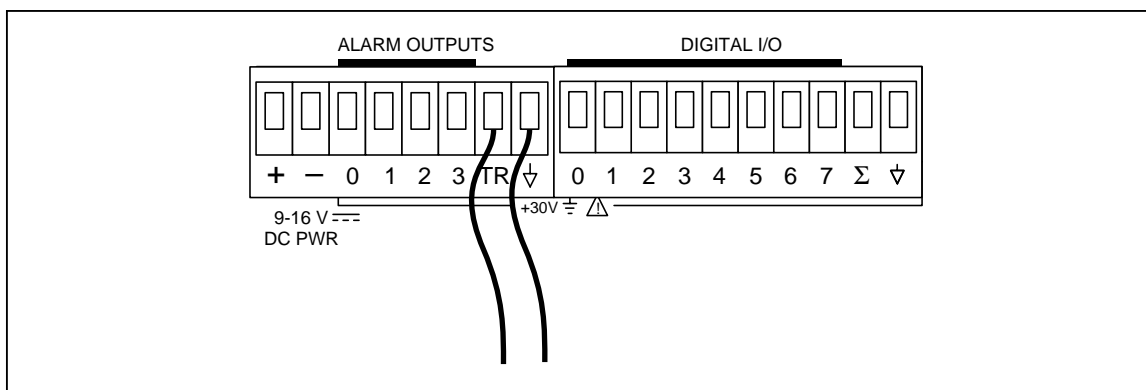

Figure 7-5. External Trigger Test
2. Remove the Alarm Output eight terminal connector module from the rear of Hydra Series II and all external connections to it. Connect short wires (to be used as test leads) to the GROUND and TR terminals. Leave other ends of wires unconnected at this time. Reinstall the connector. Refer to Figure 7-5.